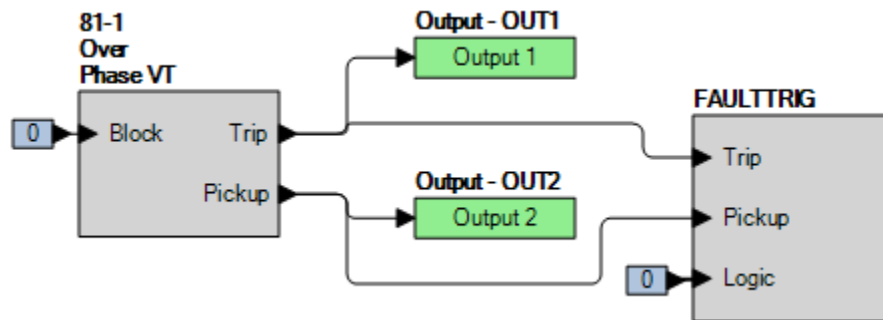

Figure 64-1. *BESTlogicPlus* Settings (Overfrequency)
Step 2: Use *BESTCOMSPPlus* to configure the *BESTlogicPlus* programmable logic shown in Figure 64-1.
Step 4: Prepare to monitor the 81-1 function operation. Operation can be verified by monitoring OUT2 (see Figure 64-1).